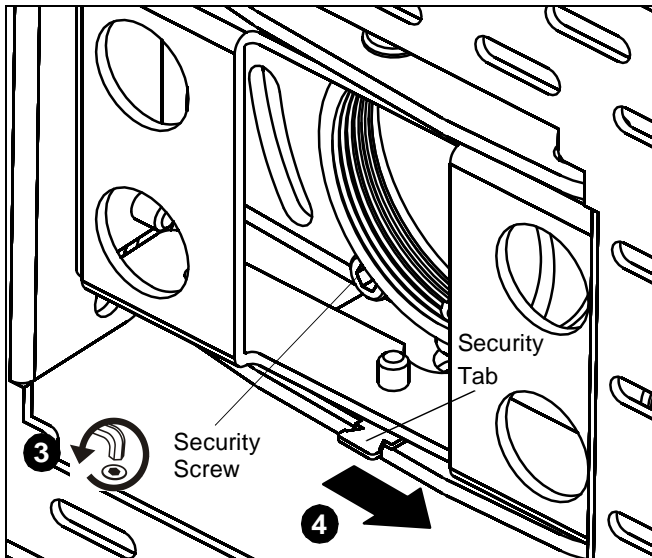

Figure 2
3. Remove and keep security screw from bottom of RPAA1 sleeve. (See Figure 2)
4. Move security tab to right. (See Figure 2)